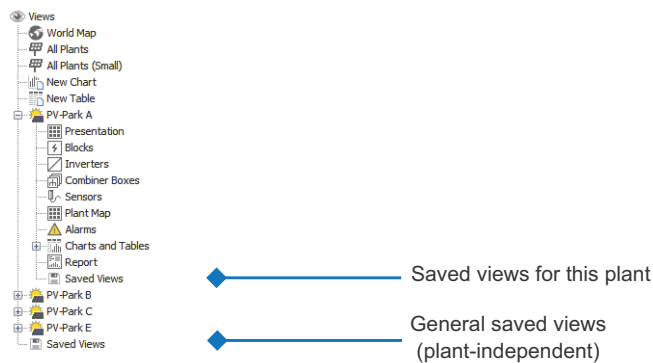

Fig. 38 Directories for Saved Views in the View Navigator
1. Select **Save as**. The dialog *Save View* will open (see Fig. 38 on p. 39).